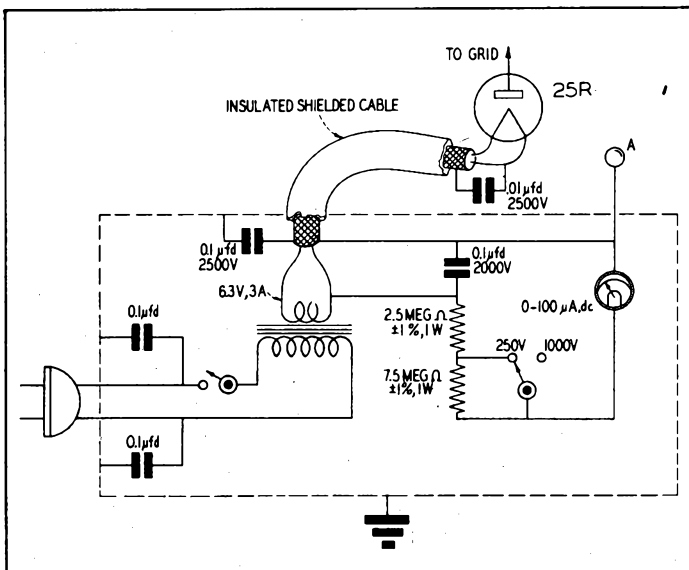

Figure 1. Peak vacuum tube voltmeter for making E_{gm} or e_{cmp} measurements.
In order to use these expressions for P_g it is necessary to determine either E_{gm} or e_{cmp} . A suitable peak voltmeter for this purpose is shown in figure 1. When terminal (A) is connected to the negative end of the C-bias supply the meter reads E_{gm} . With (A) connected to ground, the meter indicates e_{cmp} . The first method of connection is most useful in measuring total grid driving power. When used to determine grid dissipation or driving power on a push-pull stage by measuring the voltage on each grid separately it may be advisable to shunt the "free" side of the grid tank circuit with a small capacitor having a capacitance equal to that introduced by the v.t.v.m.